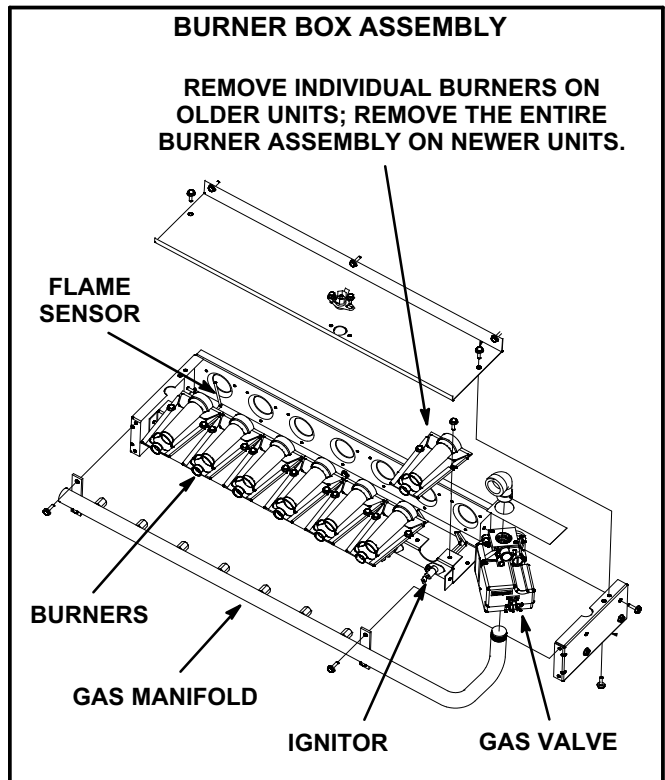

FIGURE 29
- 4- Remove screws securing burners to burner support and lift the individual burners or the entire burner assembly from the orifices. See figure 29. Clean as necessary.